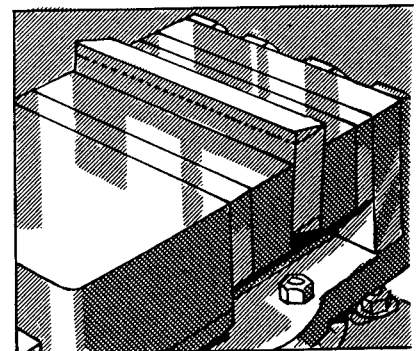

FIG. 366
2. Place the parallels in the vise and place the work between the parallels with projecting strips of paper between the vise and the parallels, and between the parallels and the work (Fig. 366).